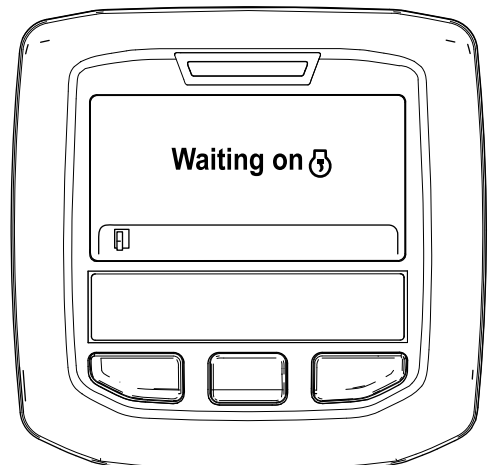

Figure 55
- B. The "Waiting on [engine icon]" message displays (Figure 55).